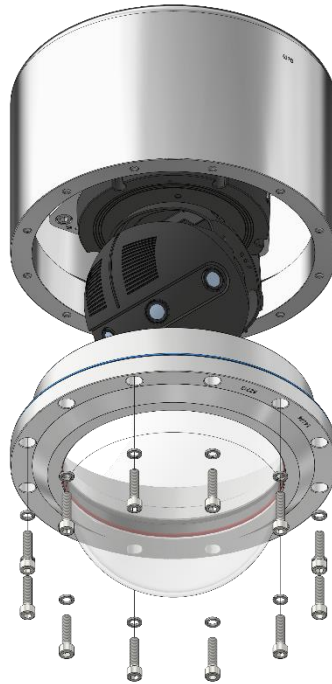

Fig. 6-4: Exception liteServer T08-VA4.1K.X
- Carefully pull out the cable and supply flange to the rear and strictly vertically/perpendicularly (see Figure 6-4). There is a risk of side tilt! Because of negative pressure, it may be difficult to remove the flange.